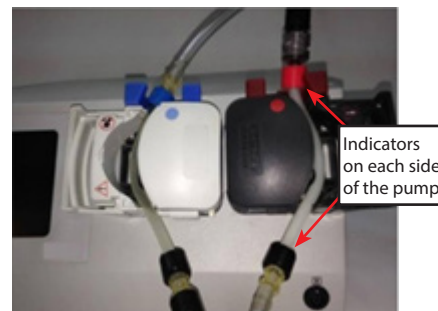

Figure 24
- Place the sections of the Infusion Tube (Fig. 2 Item 4) and Aspiration Tube (Fig. 2 Item 6) between the indicators (approx. 12 cm) inside the Pump Heads (Fig. 1A Item 4 and 5) by matching the red circle at the upper part of the pump head with the red indicator on the tube and the blue circle with the blue indicator. (Fig. 24).